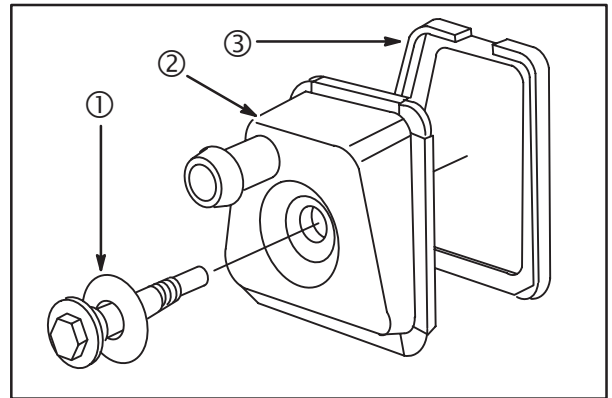

Fig. 8
1. Place breather (2) on gasket (3), **Fig. 8**.
2. Assemble large O-ring (1) onto mounting screw.